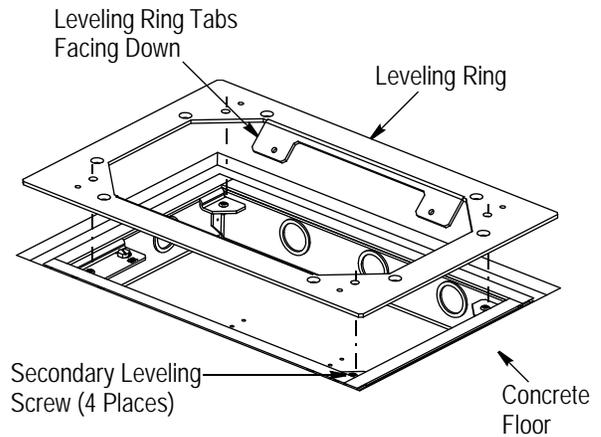

Figure 6
4. Place the leveling ring, with the tabs facing down, on top of the secondary leveling screws. Turn the screws as required to level the leveling ring so that it is approximately 6.35 mm [.25 in.] below the finished concrete floor on all sides. See Figure 6.